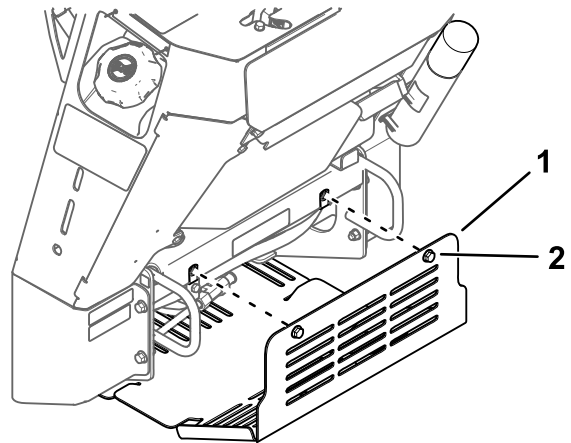

Figure 20
3. Loosen the 2 bolts securing the bottom shield sequentially until the shield is free (Figure 20).